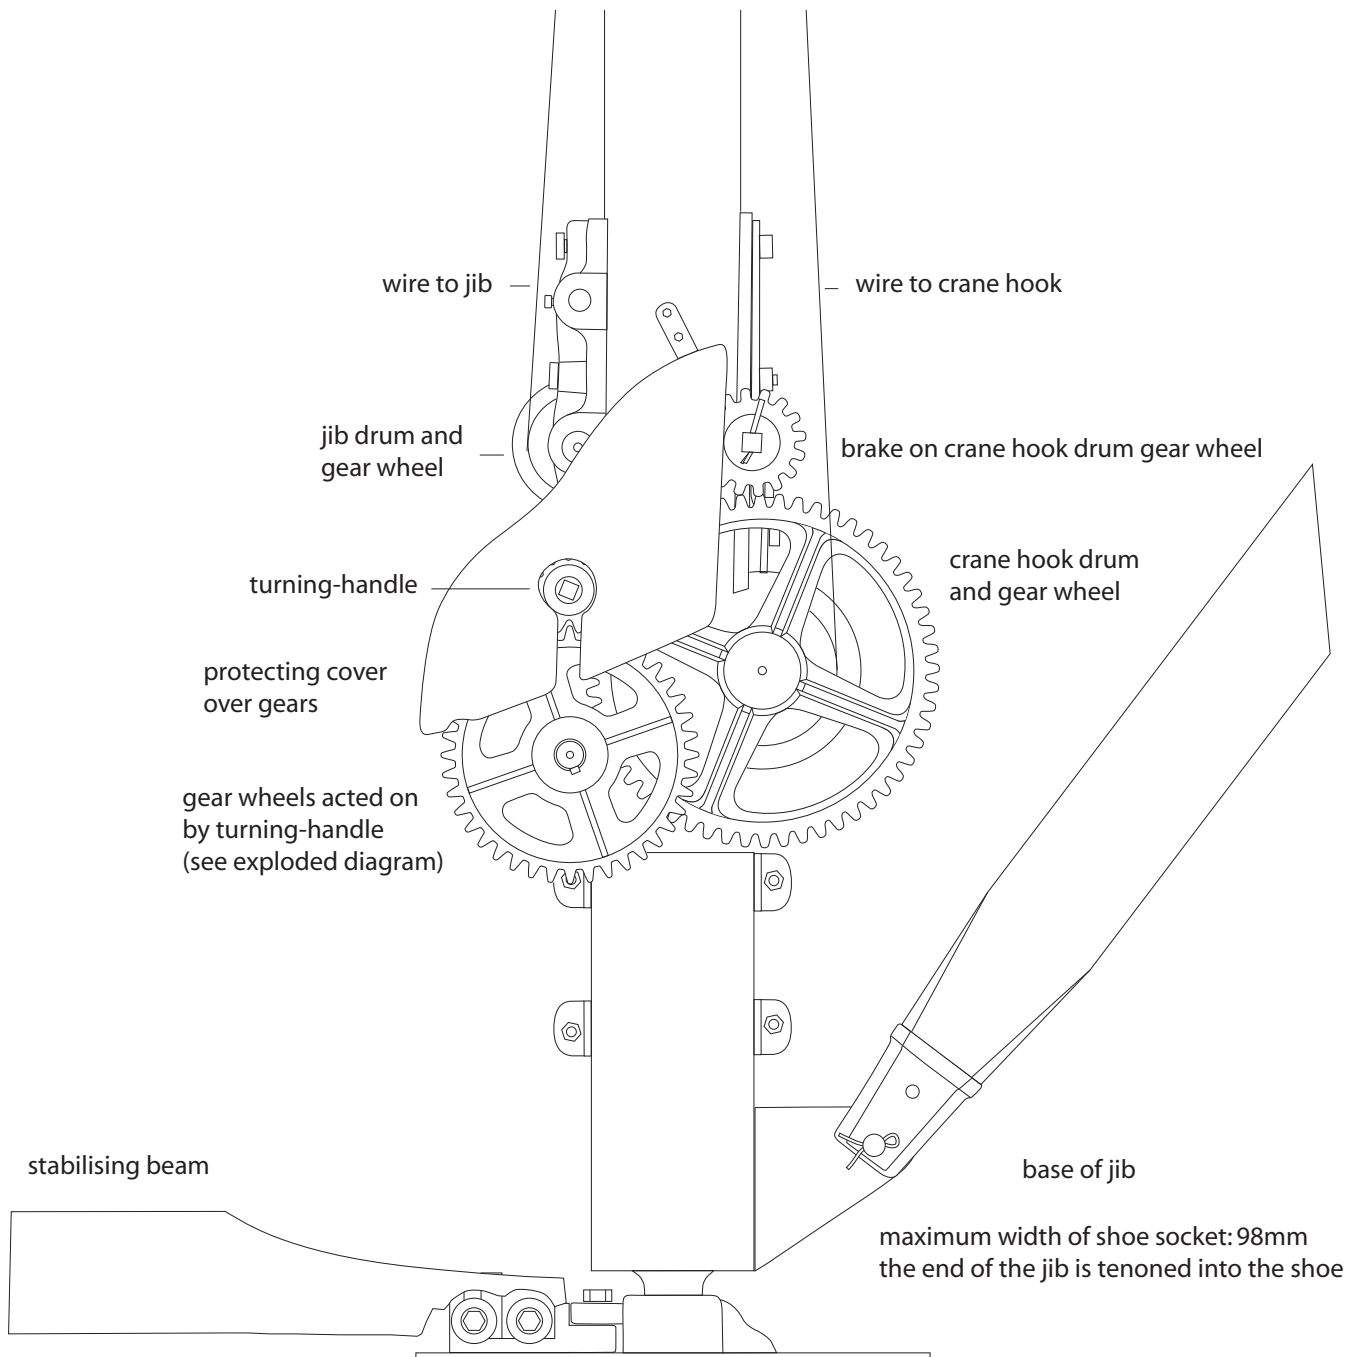

Fig. 7 Right side of crane, detail
- Fig. 7 Crane right side, detail (scale 1:10)